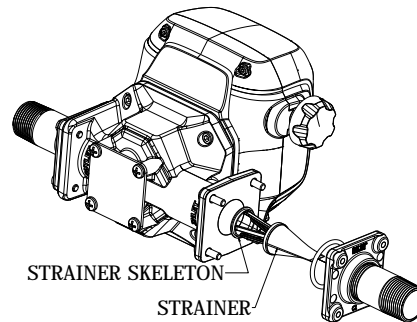

figure 5
1. Remove the socket screws at the inlet fitting. Remove the fitting, O-ring and strainer. (see Figure 5)